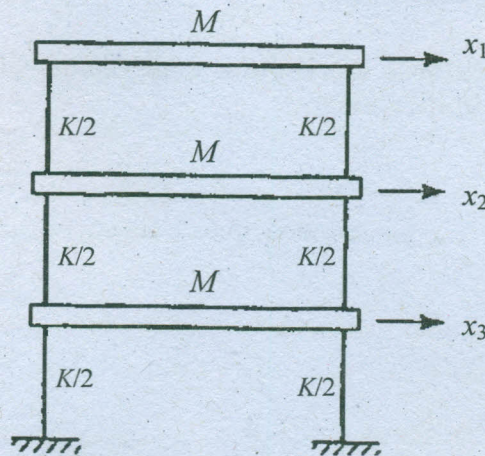

Fig. 14 (a) Three-storey shear structure
- (ii) Establish any two shape functions corresponding to one corner node and one mid-node for an eight node quadrilateral element. (6)
14. (a) Use iterative procedures to determine the first and third eigen values for the structure shown in fig 14(a). Hence determine the second eigen value and the natural frequencies of building. Finally, establish the eigen vectors and check the rest by applying the orthogonality properties of eigen vectors.